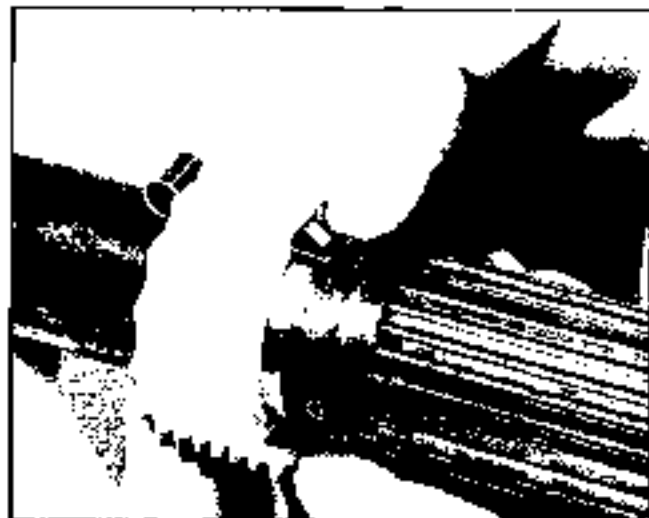

Fig. 7F-105. Installing Speedometer Drive Gear
2. Align slot in speedometer drive gear with retainer clip and slide gear into place (Fig. 7F-105).